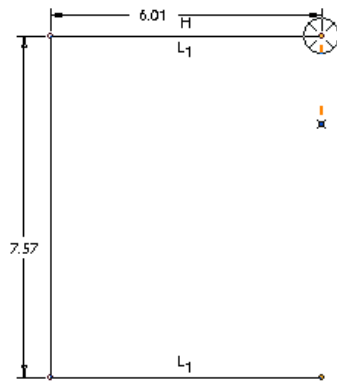

Figure 2-5 Cursor moved out of the **Target** symbol perpendicular to the endpoint
2. Specify three points in the drawing area to draw an arc. If you want to draw an arc from the endpoint of an existing entity, select the endpoint of that entity. As soon as you select the endpoint, the **Target** symbol appears at the endpoint of the entity. Move the cursor along the tangent direction through a small distance, a rubber-band arc appears with one end attached to the endpoint of the entity and the other end attached to the cursor. Note that when you move the cursor out of the **Target** symbol perpendicular to the endpoint, an arc is drawn by specifying three points. In this case, the rubber-band arc does not appear, refer to Figure 2-5.